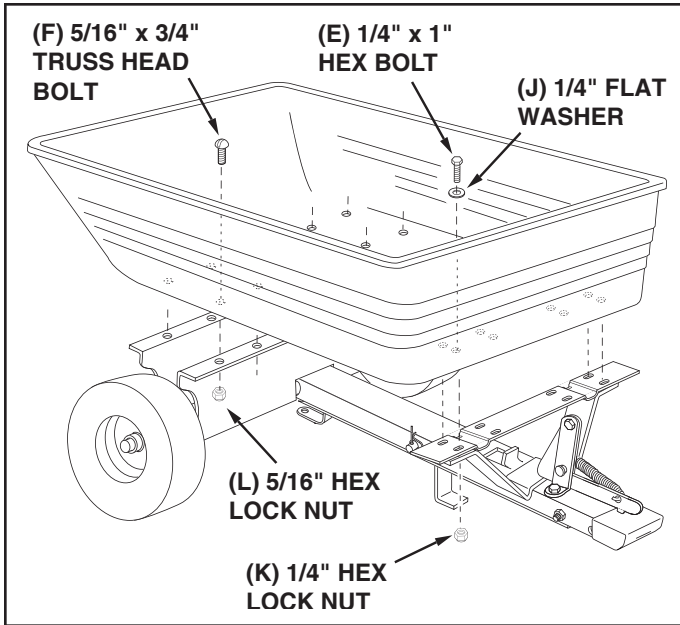

FIGURE 8
14. Place the poly tray down onto the wheel support and the latch stand plate. Fasten the tray to the wheel support using eight 5/16" x 3/4" truss head bolts (F) and 5/16" hex lock nuts (L). Fasten the tray to the latch stand plate and latch stand bracket using four 1/4" x 1" hex bolts (E), 1/4" flat washers (J) and 1/4" hex lock nuts (K). **Do not tighten yet.** See figure 8.